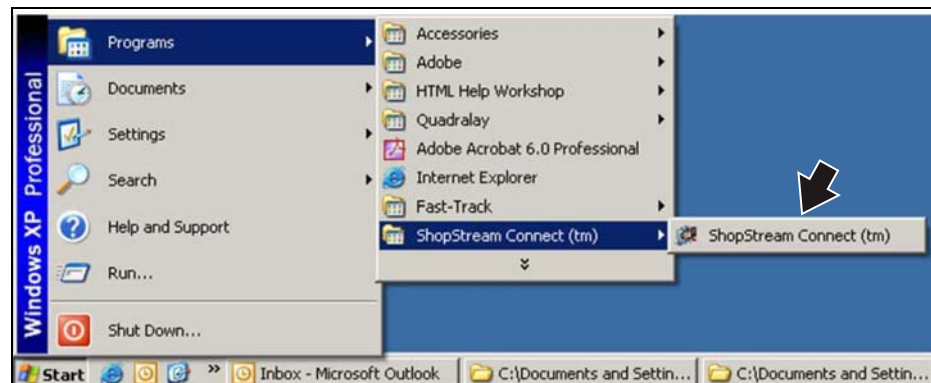

Figure 4-1 Start menu selection (Typical - Windows XP Professional shown)
- Select **Start > Programs > ShopStream Connect > ShopStream Connect** (Figure 4-1 and Figure 4-2).